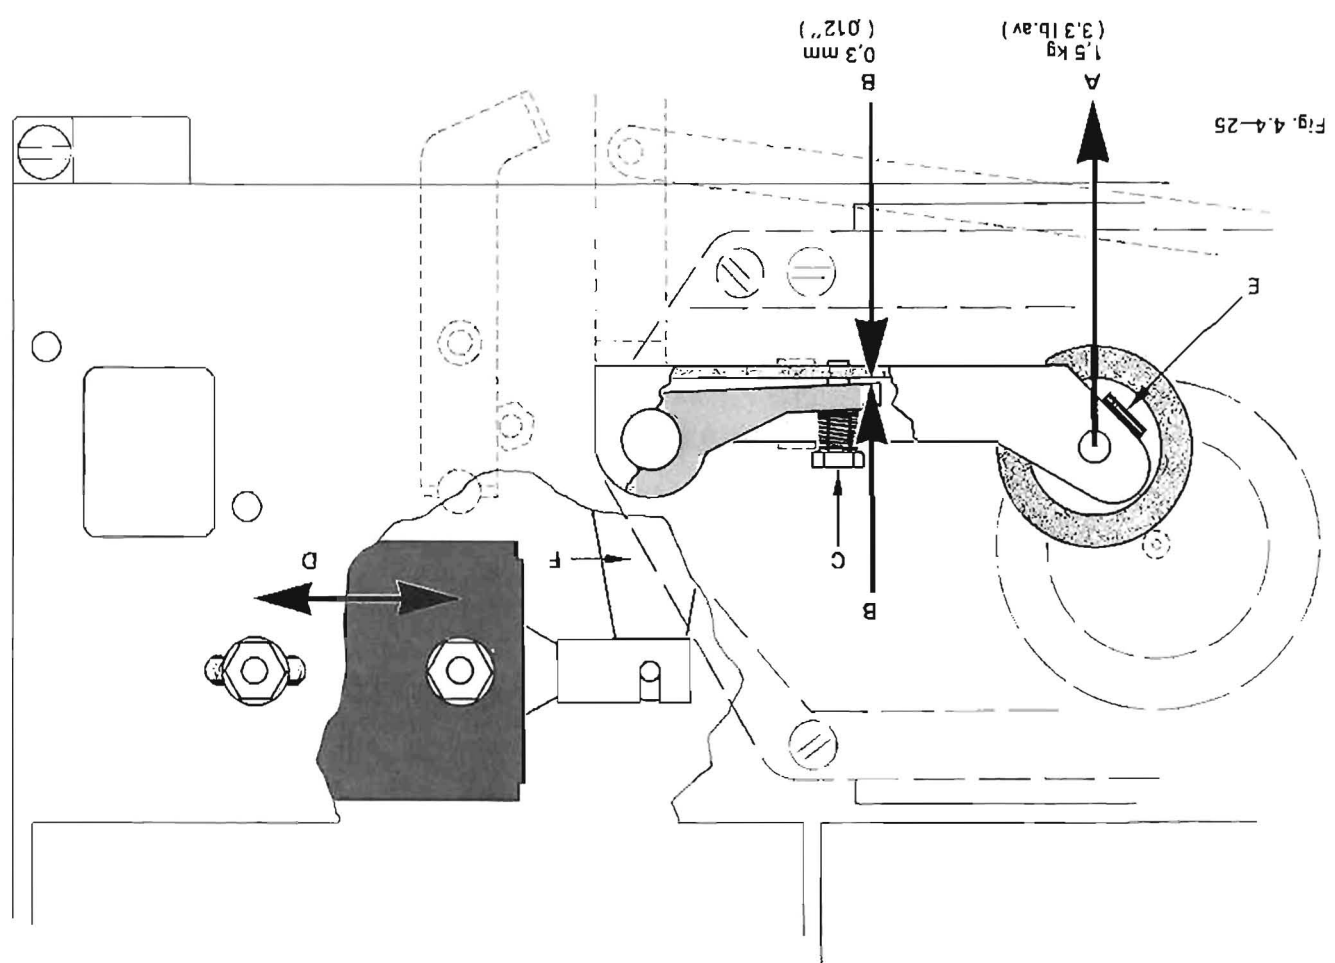

Fig. 4.4-25
- Slide pressure solenoid to the right gap B (fig. 4.4-25) is .3 mm (.012")
- Hold pressure roller axis at groove from above (fig. 4.4-25) and remove bolt fastening E to the side. Reassemble is explained in the replacement parts list.
- After exchanging the pressure lever, it is necessary to readjust it with respect to lever F (fig. 4.4-25). When the lever is stopped (solenoid core fully out), the distance between capstan axis and pressure roller shall be 10 mm (.4").
- The pressure lever is actuated electromechanically. Pressure is set by the variable spring force (fig. 4.4-25).
- Depress "Reel Motors off" (42), depress button <<< (fast rewind).